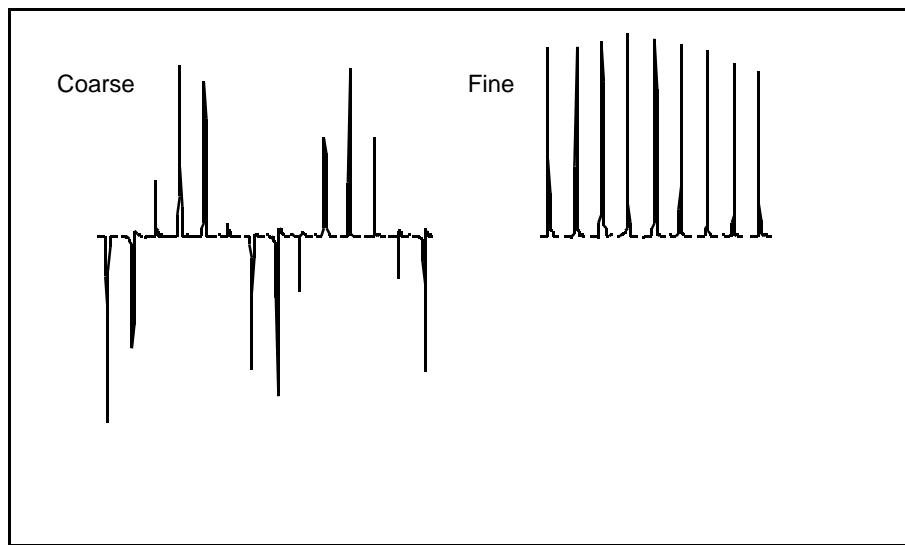

Figure 48. Calibration of `pwx`, Coarse and Fine
- Assuming you see a difference between the two spectra in step 4, perform an array of values for **pwx** and select the one for which the ^{13}C satellite signals are maximized (make sure to set **d1** sufficiently long for this experiment, say, 10 seconds). In the spectra shown in **Figure 48**, the series on the left represents a broad array of **pwx** values from 0 to 52 μs in steps of 4 μs . Such a series can be used to get the “big picture” when you have no idea of the proper value of **pwx**.